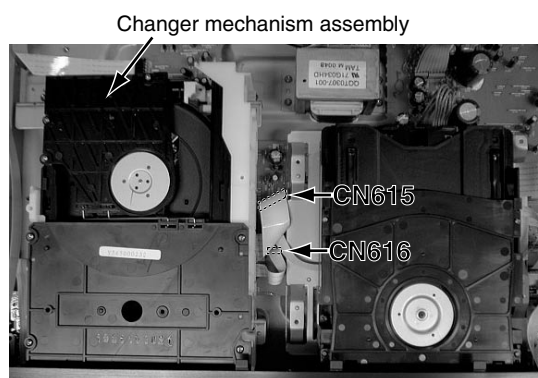

Fig.2
■ Removing the changer mechanism assembly (see Fig.2~4)